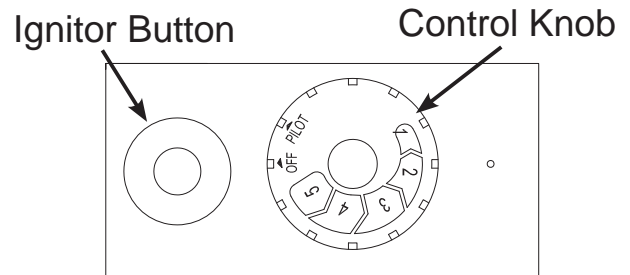

Figure 17 - Control Knob in the OFF position
4. Wait five (5) minutes to clear out any gas. Then smell for gas, including near the floor. If you smell gas, STOP! Follow "B" in the safety information, page 19. If you don't smell gas, go to the next step.
5. Turn control knob counterclockwise  to the PILOT position. Press in control knob for five (5) seconds (see Figure 17). Note: You may be running this fireplace for the first time after hooking up to gas to be pressed in for 30 seconds or more. This will allow air to bleed from the gas system.